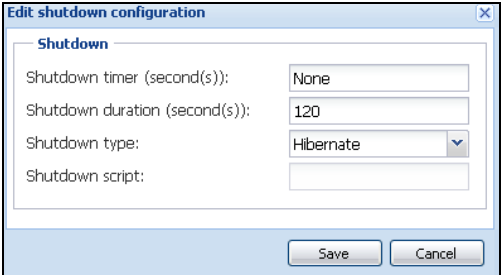

Figure 61. Edit Shutdown Configuration Dialog Box
- The IPP default configuration is available from **Settings > Shutdown > Edit Shutdown Configuration** (see Figure 61).